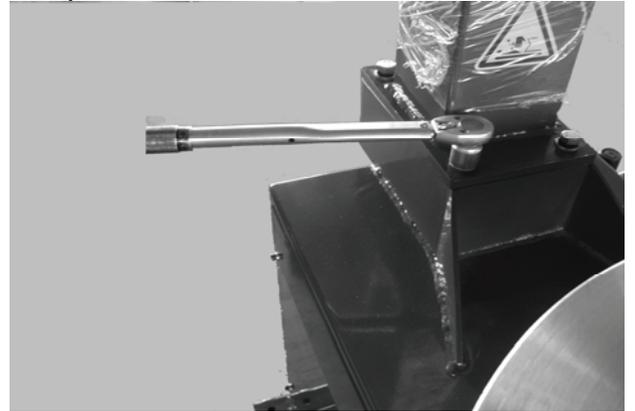

FIG 5
**STEP 2:** Place the column on the body with the warning labels facing the front of the machine. Make the holes on the column base plate align with the thread holes on the body. Install the bolt, elastic washer and plate washer that was removed in step 1 (Fig 5).